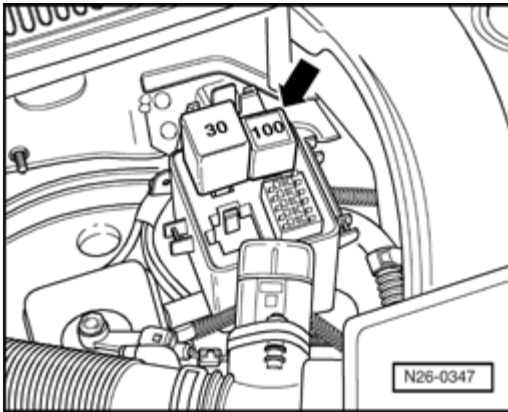

Fig. 377: Secondary Air Injection Pump Relay -J299-, Control Number 100
- In protective housing for relays (engine compartment) BEV engines Page **Position of relays in protective housing (on left in engine compartment)** . See **Fig. 377**